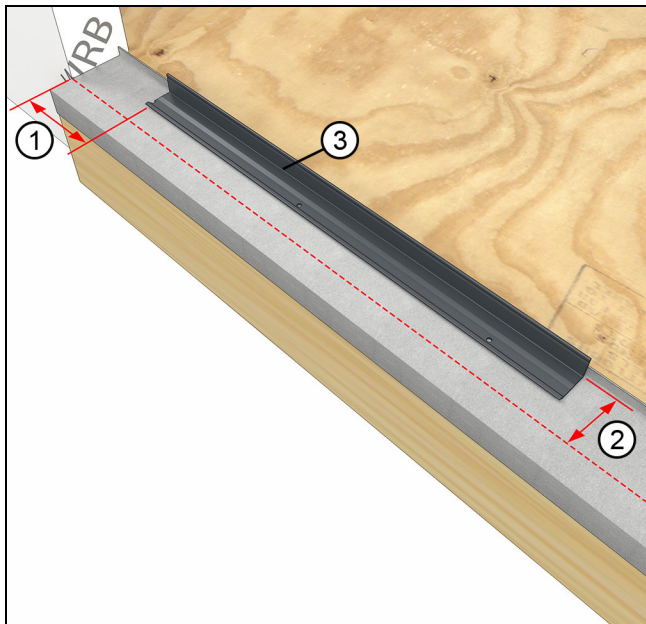

Figure 177
1. For configurations where the first unit you install in an opening is a door, measure $5 \frac{3}{16}$ " away from the rough opening and install the sill support $3 \frac{5}{16}$ " from the exterior sheathing line. See Figure 177.